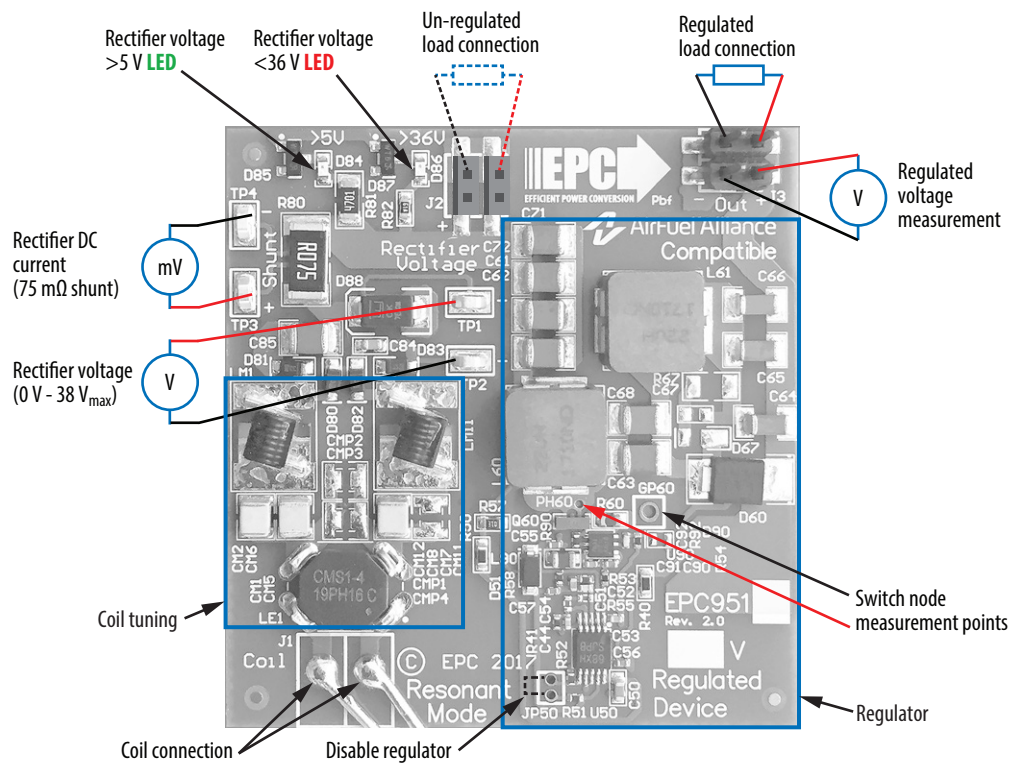

Figure 3: Proper connection and measurement setup for the receiver board.
Figure 3 shows the proper connection method to the EPC9515.
The EPC9515 demonstration system is easy to set up and evaluate the performance of the eGaN FET in a wireless power transfer application. Refer to figure 3 for proper connection and measurement setup before following the testing procedures.
- Make sure the entire system is fully assembled (this includes the wireless power transmitter) prior to making electrical connections and make sure jumper JP50 is NOT installed. Connect the load to the regulated output and connect all required instrumentation according to figure 3.
- Make sure the entire system is fully assembled (this includes the wireless power transmitter) prior to making electrical connections and make sure jumper JP50 is installed. Connect the load to the un-regulated output and connect all required instrumentation according to figure 3 (where applicable).
When measuring the high frequency content such as the switch-node, care must be taken to avoid long ground leads. An oscilloscope probe connection (preferred method) has been built into the board to simplify the measurement of the switch-node voltage (shown in figure 3).